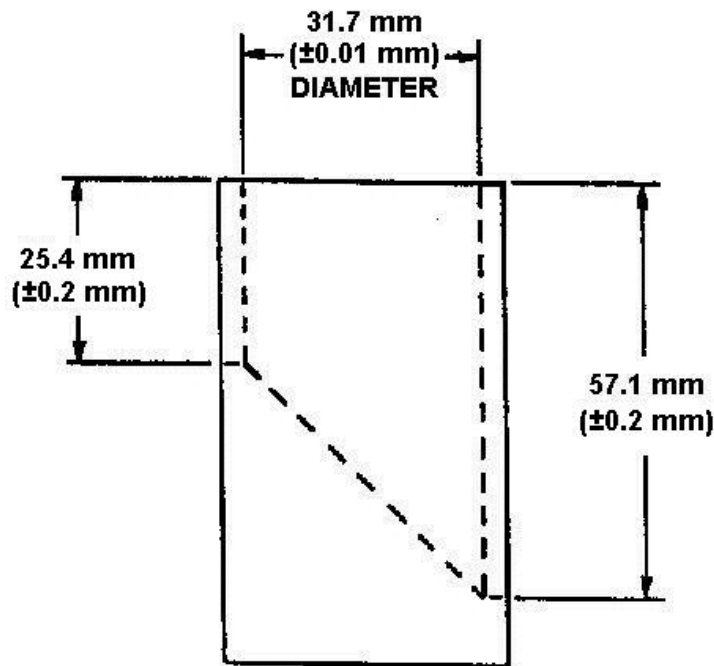

Figure 1: Truncated Right Circular Cylinder.
- 4.1 Truncated Right Circular Cylinder (Small Parts Cylinder). See **Figure 1**.